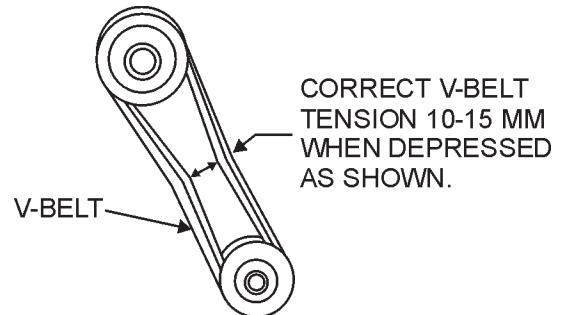

**Figure 18. Engine Air Filter**
1. Remove the air cleaner cover and foam filter element as shown in Figure 18.
2. Tap the paperfilter element (Figure 18) several times on a hard surface to remove dirt, or blow compressed air [not exceeding 30psi (207 kPa, 2.1 kgf/cm2)] through the filter element from the air cleaner case side.